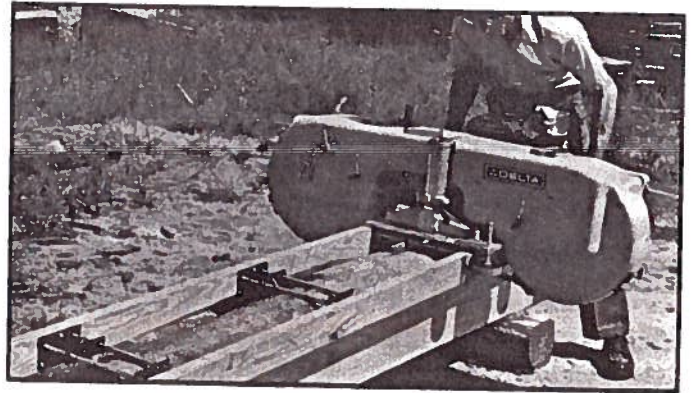

Fig. 53
11. Set the saw for the maximum depth of cut and make the cut in the same manner as the first cut, as shown in Fig. 53.